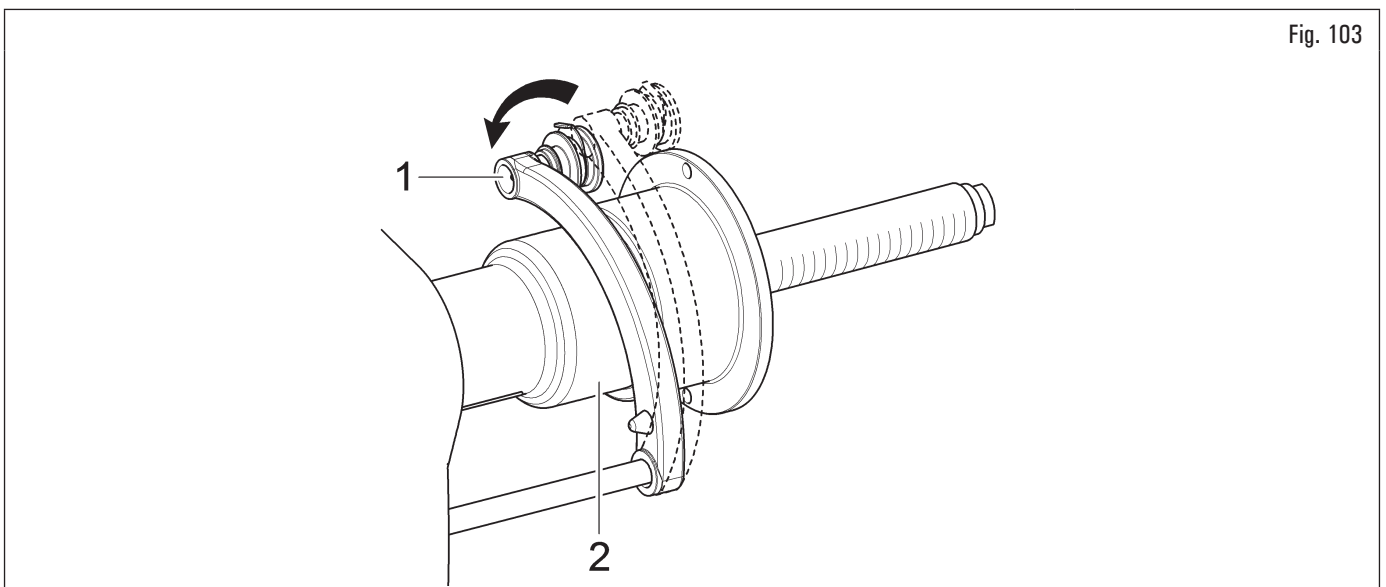

Fig. 103
Repeatedly bringing the gauge arm (Fig. 103 ref. 1) in contact with the chuck (Fig. 103 ref. 2), the program will cyclically go from "STATIC" to "STATIC 1" TO "STATIC 2" then returning to the beginning.
2. bring into contact the weights fitting pliers with the inner part of the rim (2 contact points) (see Fig. 103) to select "ALU-S" program;
Repeatedly bringing the gauge arm (Fig. 103 ref. 1) in contact with the chuck (Fig. 103 ref. 2), the program will cyclically go from "ALU-S" to "ALU-S1" TO "ALU-S2" then returning to the beginning.